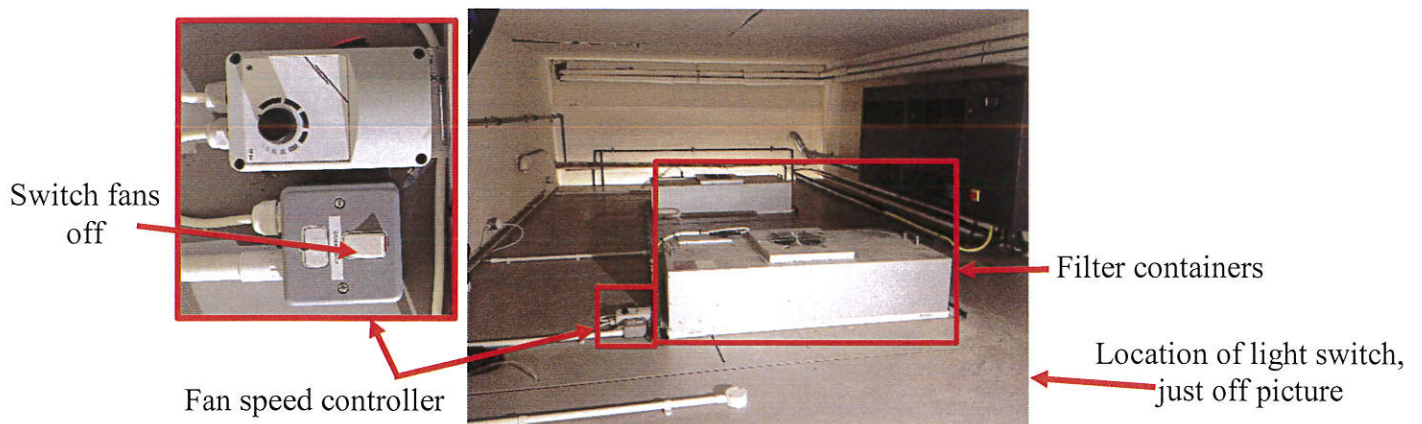

Figure 2: Location of equipment inside the plenum, with a zoomed in view of the Fan Controls.
- 6.2.4. **Switch the Fans Off.** Using the control switch shown in Figure 2: switch the fans off.
6.2.13. **Switch the Fans Back On.** Using the switch shown in Figure 2: switch the fans back on.
6.3.4. **Monitor the Air Pressures.** After 10 minutes to allow for settling time, monitor the air pressures inside the clean room and the changing room, these may require adjusting, this is done by use of the fan speed controller shown in Figure 2: or as described in step 6.1.1.